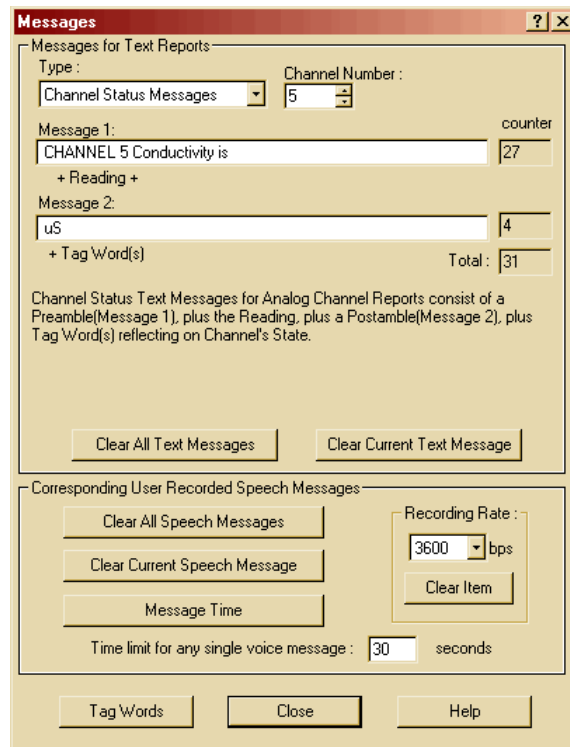

Figure 43: Messages, Channel 5
42. Change the **Channel Number** to 5 and edit it as shown Figure 43.